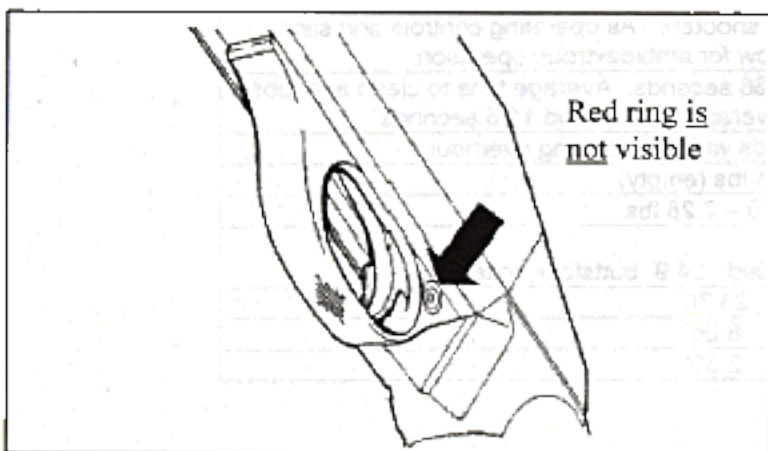

Figure 6a. On “safe”
**Cross-bolt Safety Button (Figures 6a and 6b)** – The only active safety on the M1014 Combat Shotgun. This safety acts to prevent the release of the cocked hammer should the trigger be pulled when the weapon is set on “safe.” This safety is located on the trigger group directly to the rear of the trigger and is actively actuated by the operator. The safety button can be removed and reversed by the armorer for use by right or left-hand users if necessary. Production shotguns are delivered with the safety button set up for use by right-handed operators (red ring visible on the left side of the weapon when set on “fire”).